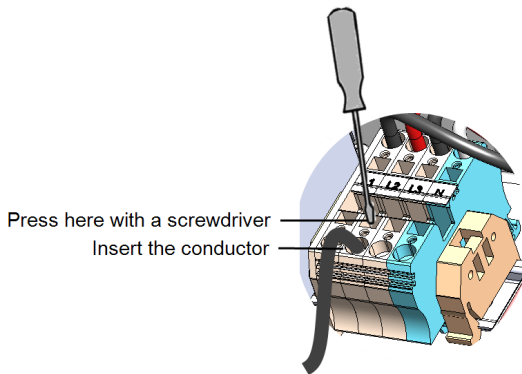

Figure 22: AC Spring-clamp terminal – 9kW, 10kW, 20kW inverter
1. Use a standard flat-blade screwdriver to connect the wires to the spring-clamp terminals (See *Figure 22*).